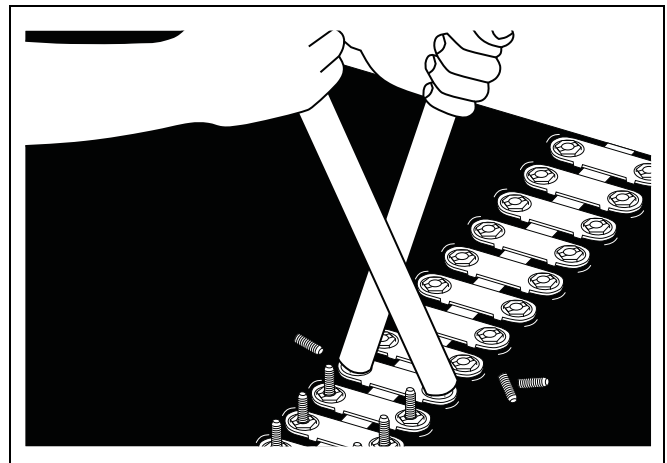

Figure 6R
12. Break off excess bolt ends using two (2) bolt breakers. Peen or grind bolts to finish. (See Figure 6R.)